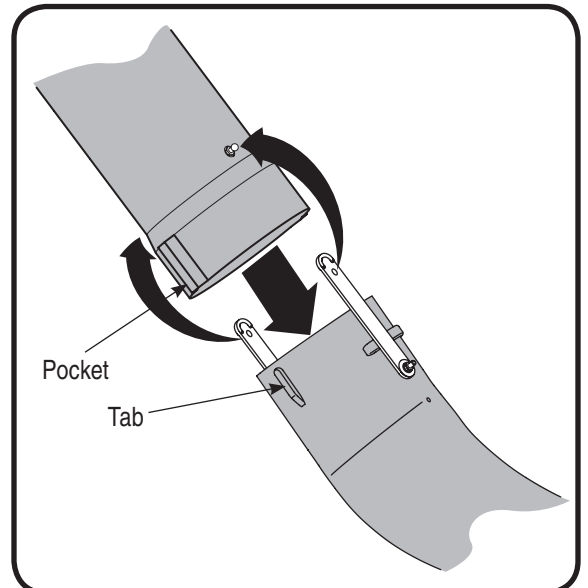

Figure 5-3
7. Place the lower end of the chute tube over the discharge chute so that the tabs on the discharge chute fits into the pockets on the chute tube. See Fig. 5-3.
8. Secure by hooking the two retainer straps of the discharge chute to the pins on the chute tube. See Fig. 5-3.